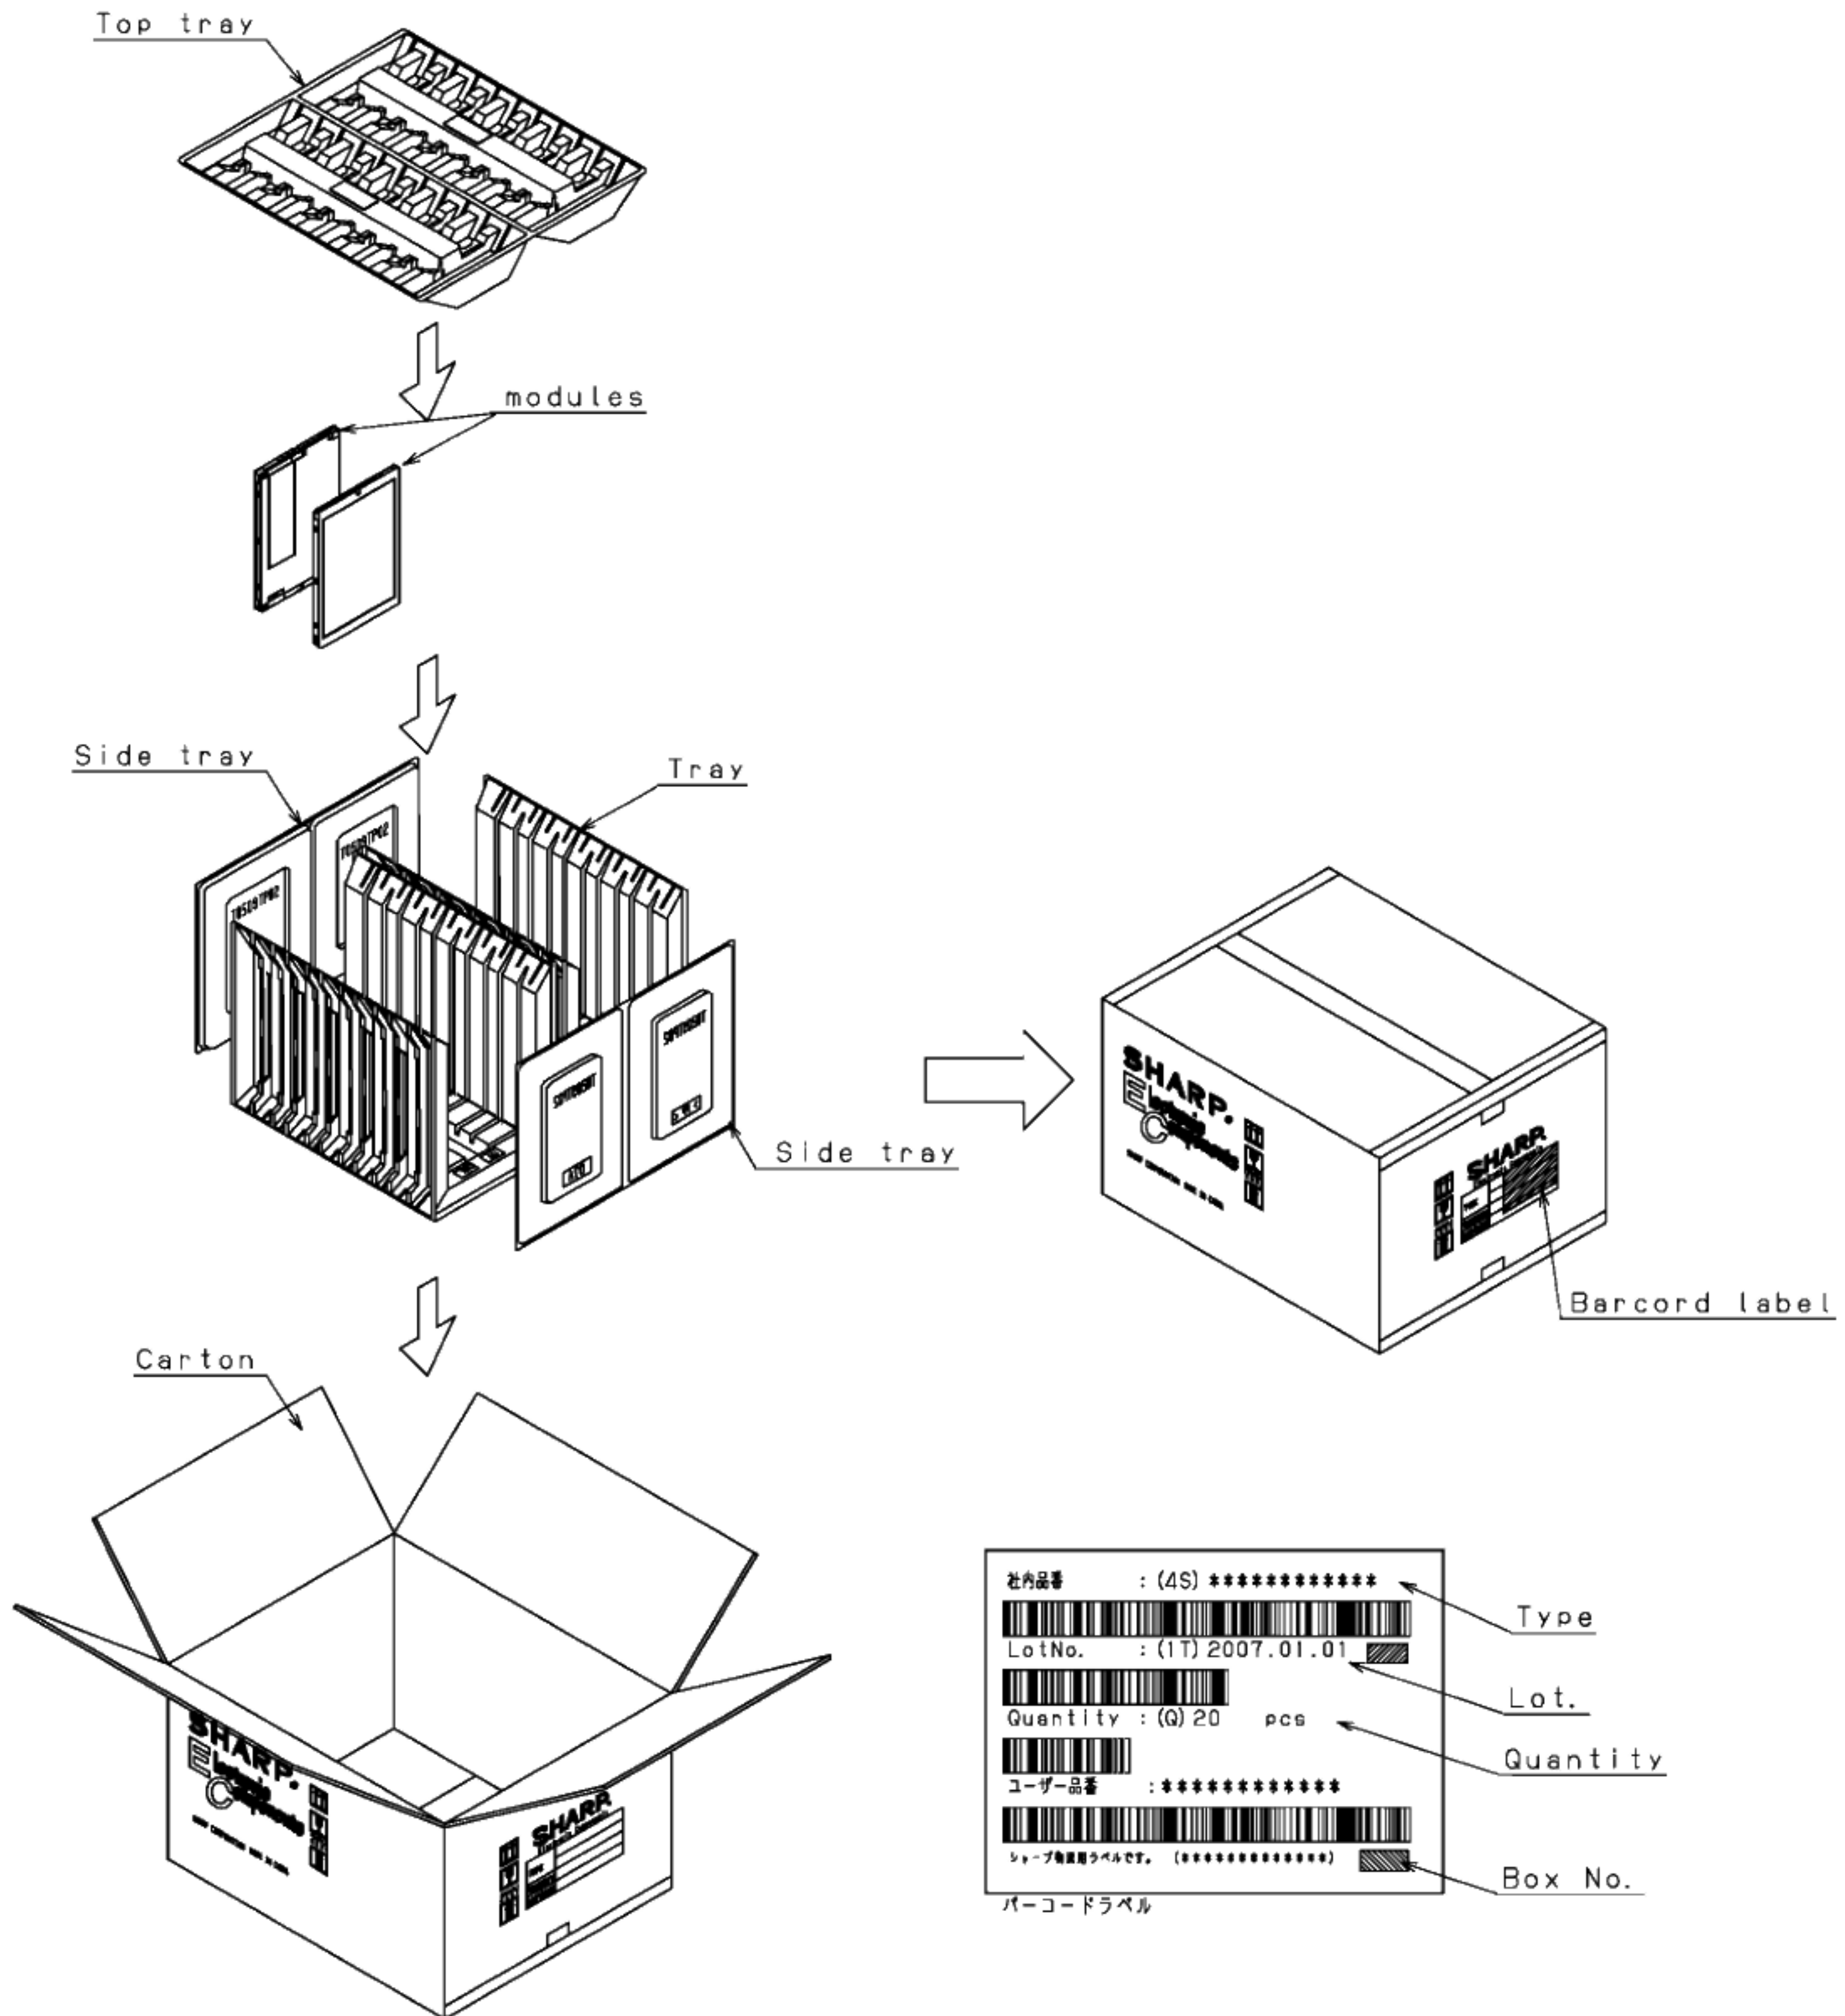

Fig.3 PACKING FORM
12.1 Fig.3 shows packaging form.